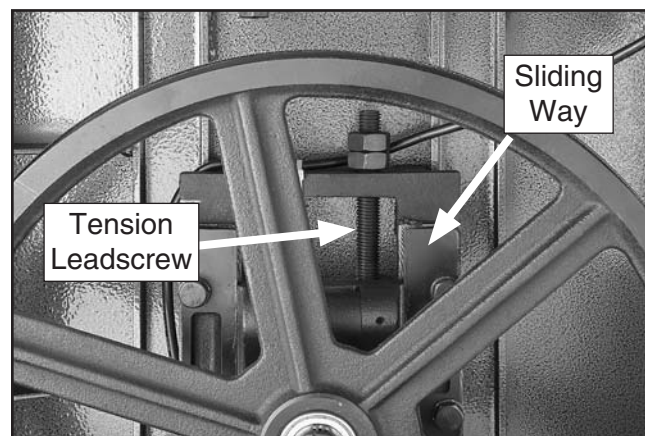

Figure 56. Tension leadscrew fully exposed.
2. Rotate the blade tension handwheel clockwise to fully expose the tension leadscrew (see **Figure 56**).
Do not get any grease on the tension sliding ways (see **Figure 56**). These cast iron ways create their own dry lubricant with use. Applying grease will create a mixture that will interfere with the smooth movement of the ways.